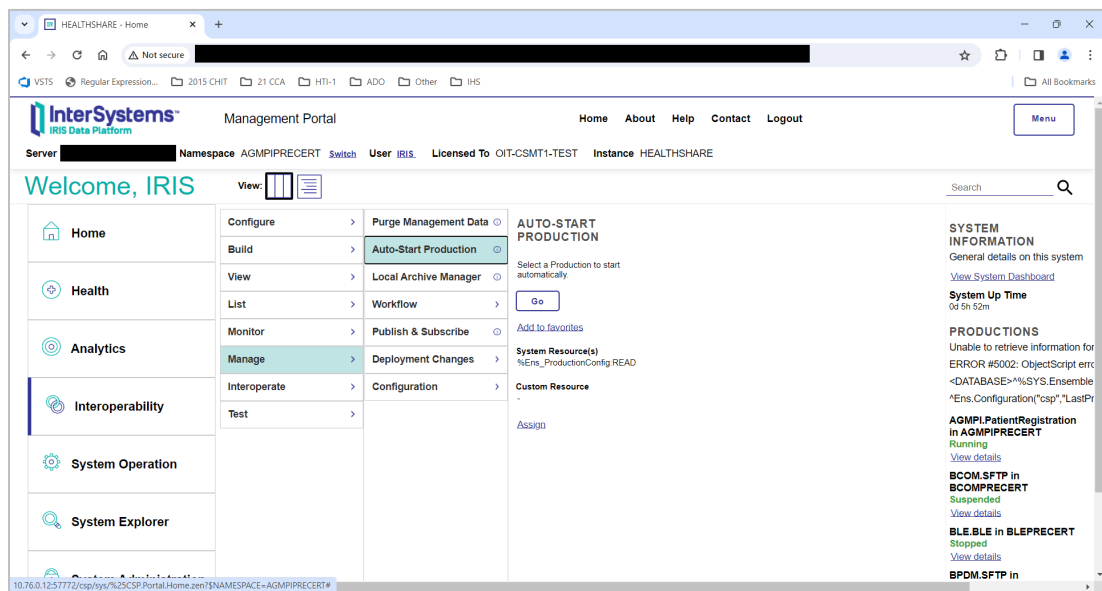

Figure 8-4: Management Portal page, Auto-Start Production option
3. Click **Interoperability | Manage > | Auto-Start Production**, as shown in Figure 8-4.